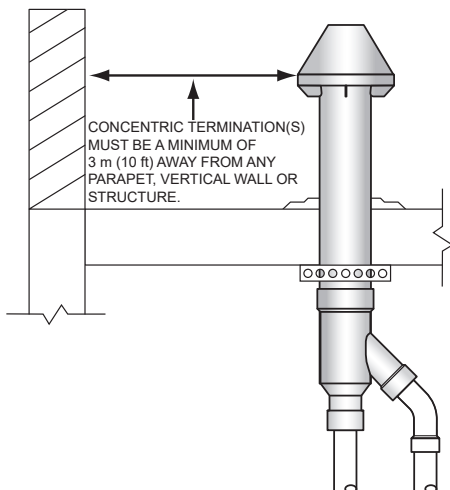
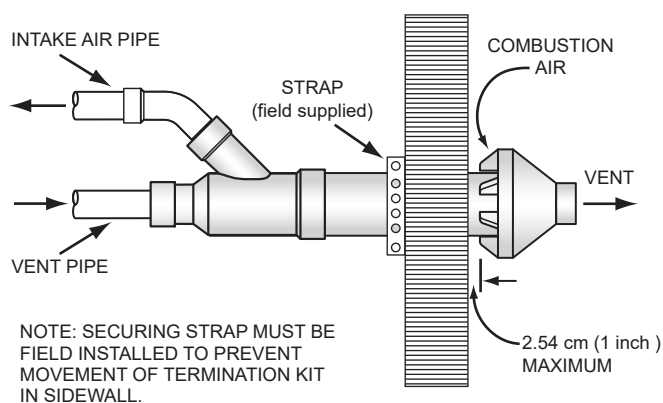

Figure 33. Flat Roof Concentric Termination - Roof Parapet Clearances
Figure 35. Concentric Termination - Sidewall Installation
When installing a concentric termination vertically through a flat roof, the termination's vent cap must be a minimum of 3 m (10 ft) away from any parapet, vertical wall or structure as shown in **Figure 33**.
on top. See **Figure 35** (page 35).
- C. Secure assembly to structure as shown in **Figure 35** or **Figure 33** using field-supplied metal strapping or equivalent support material.
- Cement heater combustion-air and vent pipes to concentric vent termination assembly. See **Figure 35** for proper pipe orientation and attachment.